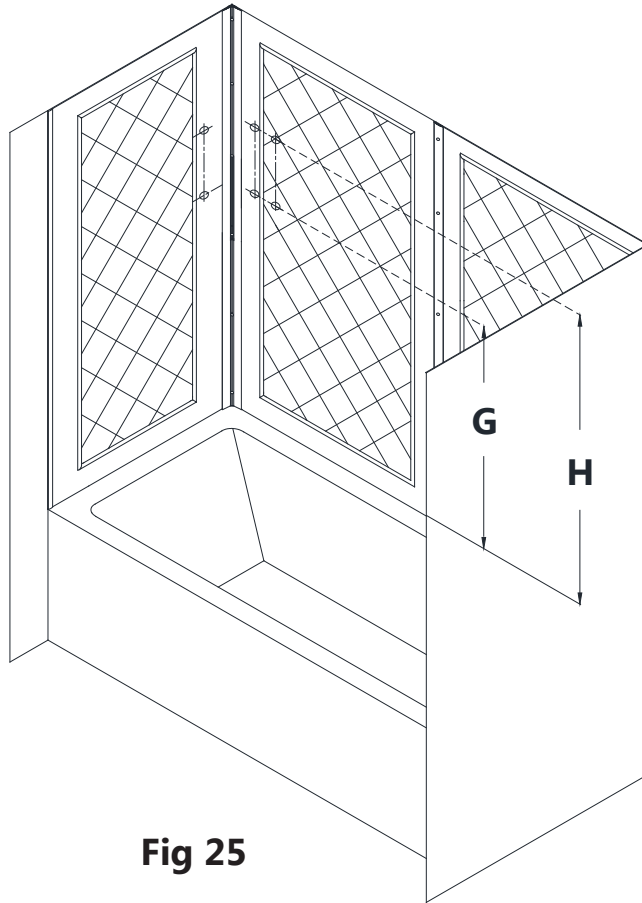

Fig 25
25. Determine the preferred height for the **Glass Shelves (#09)** and mark the locations on the wall. **(Fig 25)**